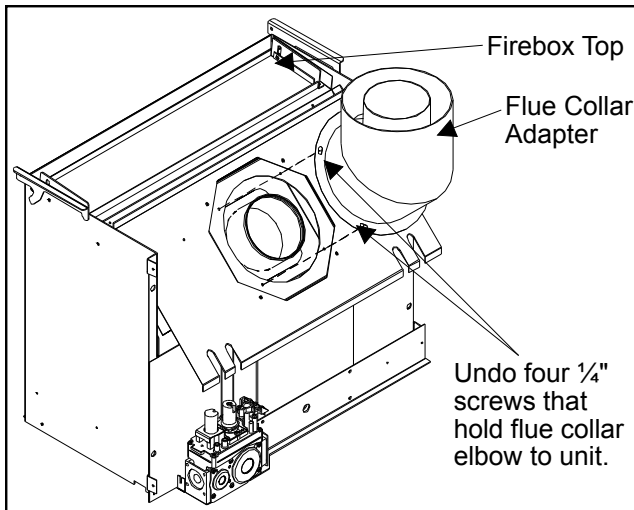

Figure 40: Step 3 of Converting Top Vented into Rear Vented.
2. Remove the four (4) $\frac{1}{4}$ " screws that hold the flue collar elbow to the unit body (see Figure 40).